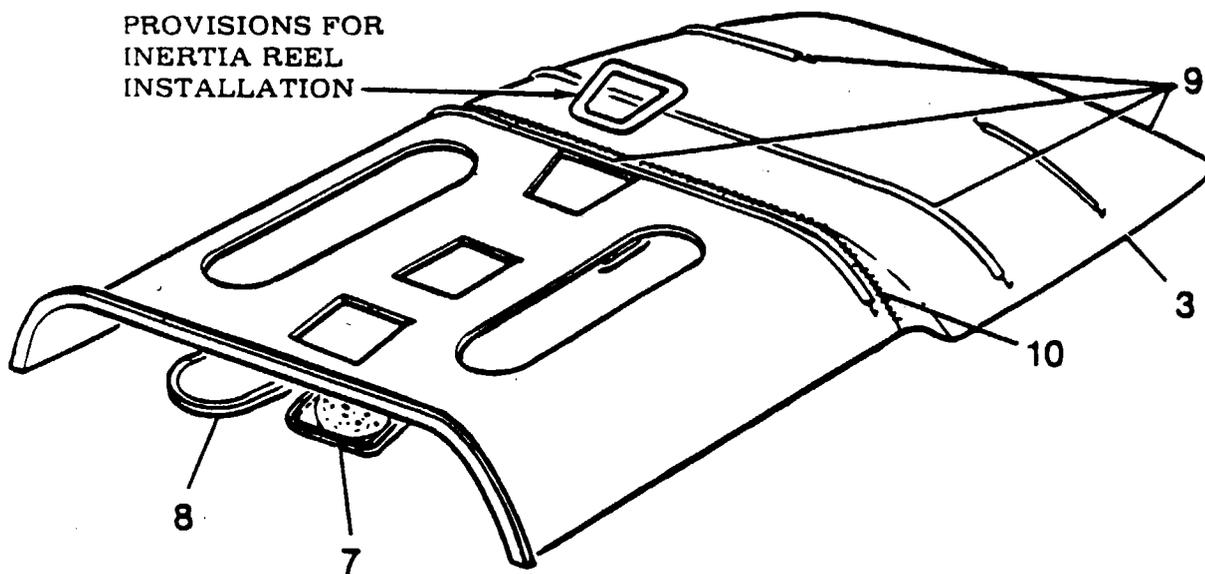

Figure 3-8. Cabin Headliner Installation
- 3-47. **CABIN HEADLINER.** (See figure 3-8.)
- 3-48. **REMOVAL AND INSTALLATION.** (See figure 3-8.)